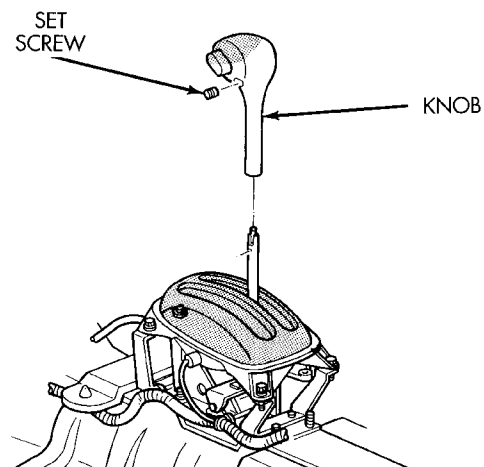

Fig. 13 Gearshift Handle
(1) Disconnect battery negative cable and isolate.
(2) Remove console assembly. Refer to Group 23, Body.
(3) Remove the gearshift knob set screw and knob (Fig. 13).